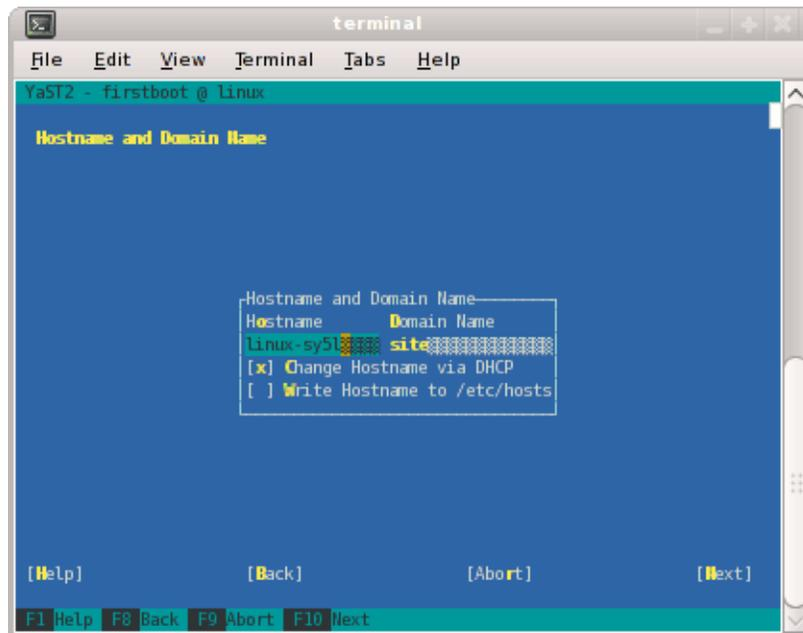

Figure 1-4 Hostname and Domain Name Screen
5. From the **Hostname and Domain Name** screen, as shown in Figure 1-4 on page 5, enter the hostname and domain name of your system in the appropriate fields. Make sure that **Change Hostname via DHCP** is **not** selected (no **x** should appear in the box). Note that the hostname is saved to `/etc/hosts` in step 10, below. Click the **Next** button to continue.